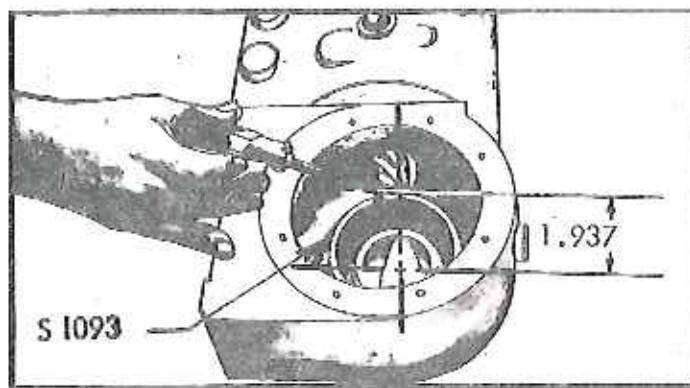

Fig. 4
4. TO SET UP RING GEAR AND PINION, PLACE END OF PINION, FIG. 4; 1.937 INCHES FROM CENTER LINE OF AXLE AND SET RING GEAR TO .003 - .006 BACKLASH. MAKE SURE RING GEAR TURNS THROUGH A FULL REVOLUTION OF FREEDOM.
NO. S1093 PINION ADJUSTING TOOL ON PAGE 20-4 IS AVAILABLE FOR SETTING PINION. (FIG. 4)